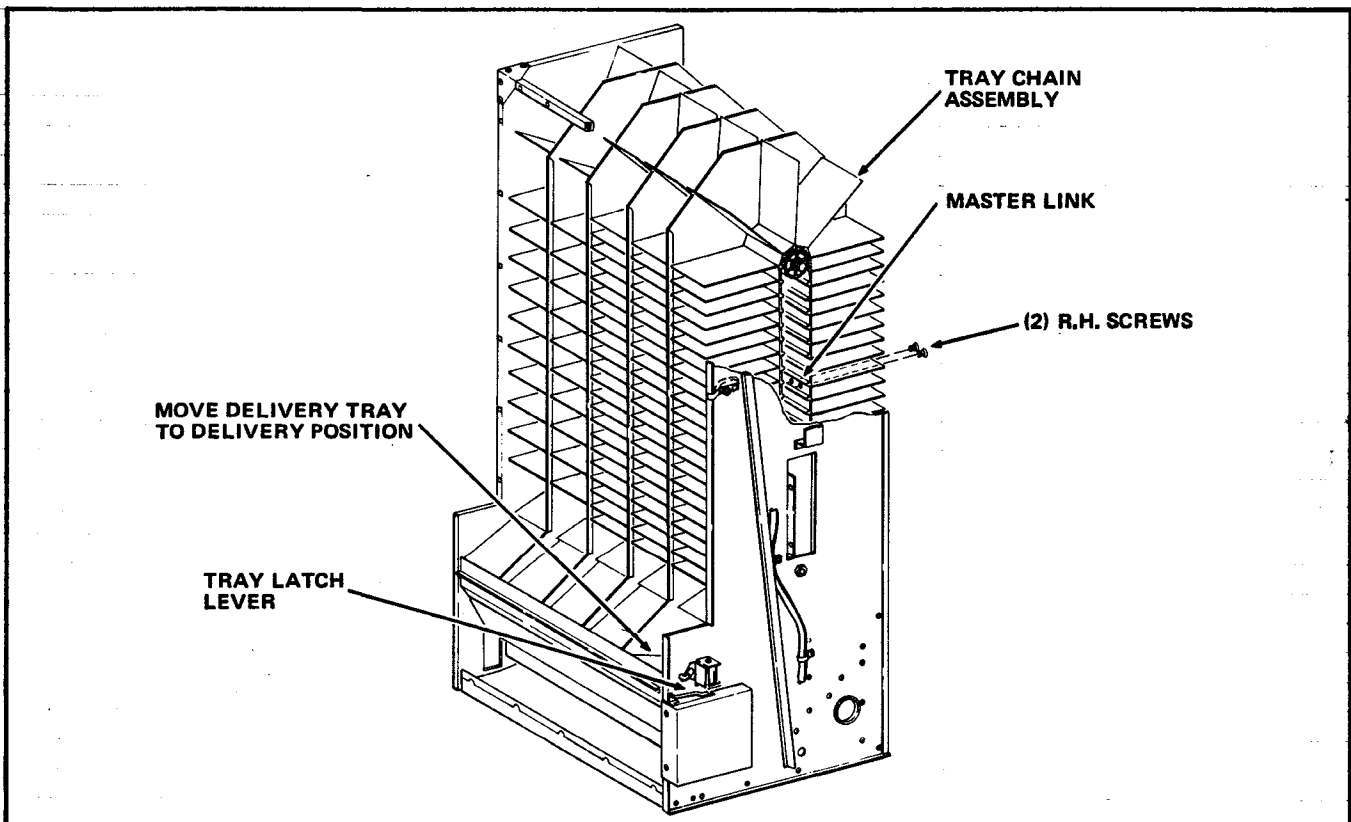

FIGURE 3
9. Remove the defective Tray Chain Assembly from the Merchandiser. See Figure 3.